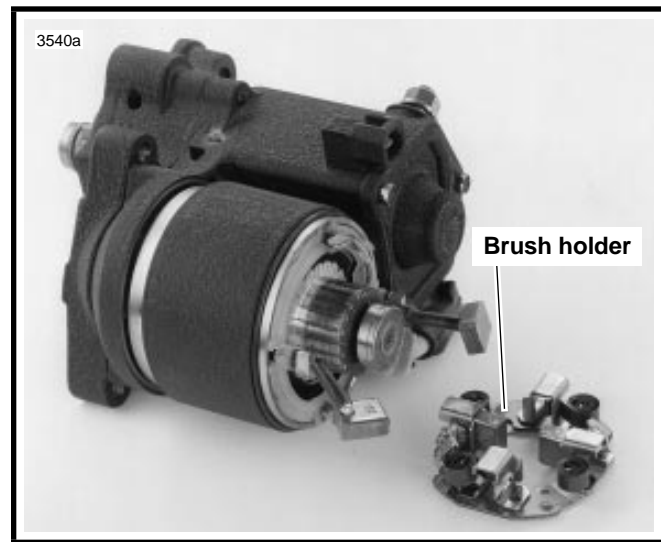

Figure 5-15. Removing Brush Holder
4. See Figure 5-15. Use a wire hook to pull upward on brush springs, and lift brushes out of holder. Remove brush holder.